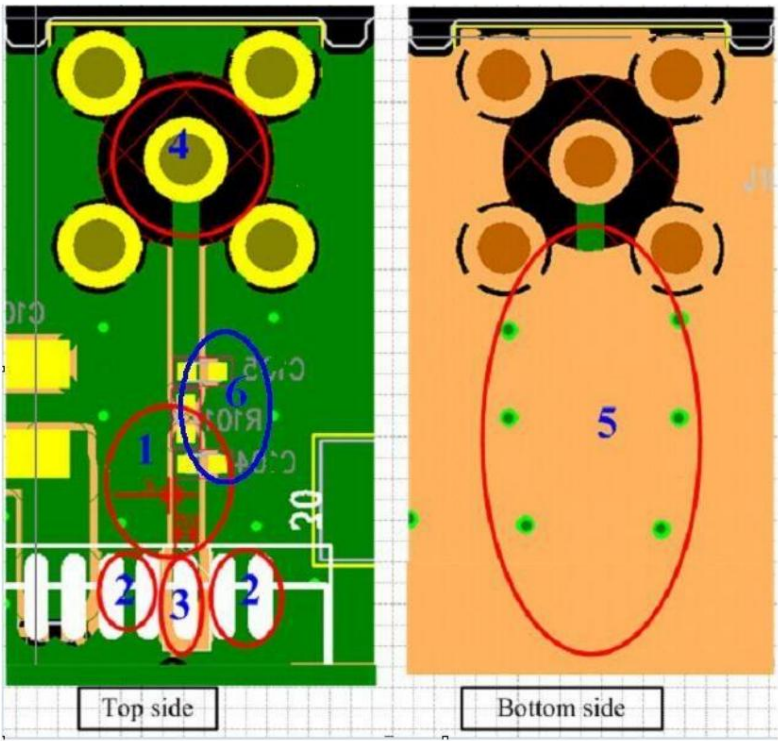

Figure 6: PCB LAYOUT
1. Control the line width  $W$  and spacing  $S$  corresponding to the 50 ohm coplanar waveguide. Take the common PCB board as FR4 medium (dielectric constant is 4.2) and the copper thickness is 35um as an example, the line width and ground clearance corresponding to the thickness between different signal layers and reference ground are shown in Table 1. It is especially reminded that the PCB board factory needs to control the precision of the line width  $W$  and the ground clearance  $S$  on both sides. 2. The ground PIN is not used as a thermal pad, and should be in full contact with the ground. 3. The surface layer is slightly forbidden to reduce parasitic effects. The RF line should be as short as possible, and it is best to avoid right-angle routing. It is recommended to go 135 degrees if there is a corner. 4. When connecting the device package, pay attention to keep the signal pins at a certain distance from the ground, please refer to Figure 6. If it is a mounted pad, dig the ground under the corresponding signal pin pad. 5. Ensure that the reference ground corresponding to the RF line is complete, add ground holes to help RF return, and keep at least 2 ground holes and signal lines.